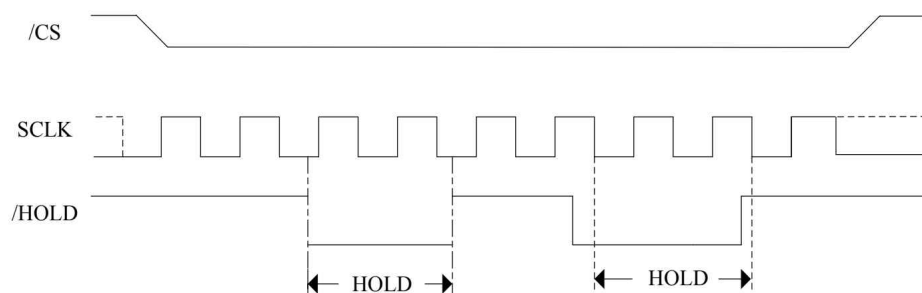

Figure 6-1. Hold Condition Activation
The Hold condition starts when the Hold (\overline{HOLD}) signal is driven Low at the same time as Serial Clock (SCLK) already being Low (as shown in Figure 6-1).
The Hold condition ends when the Hold (\overline{HOLD}) signal is driven High at the same time as Serial Clock (C) already being Low. Figure 6-1 also shows what happens if the rising and falling edges are not timed to coincide with Serial Clock (SCLK) being Low.